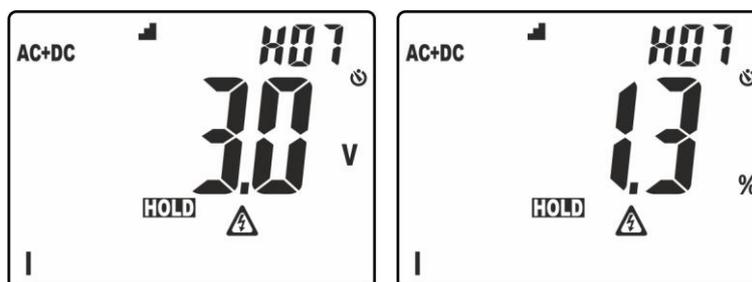

Fig. 4: Display of ordering of amplitude of harmonic analysis
- Long pressing of the key (at least 2s) in order to activate the **H $\bar{\square}$ O** (**H**igher **H**armonic **O**rdering) ordering function of the amplitude of harmonics. In these conditions, function "HOLD" is automatically activated, symbol $\bar{\square}$ is shown on the display, the bargraph is disabled and the instrument shows the value of amplitude of all harmonics between the 2nd and the 25th, in **decreasing order** from the harmonic with the highest value, as shown in Fig. 4.
In the example in Fig. 4, the harmonic with the highest value corresponds to the 7th. Press key \blacktriangle to observe the amplitude of the remaining harmonics and press key **H/H%/H $\bar{\square}$** again to switch between display in absolute and percentage values. Turn the rotary switch to exit the function.